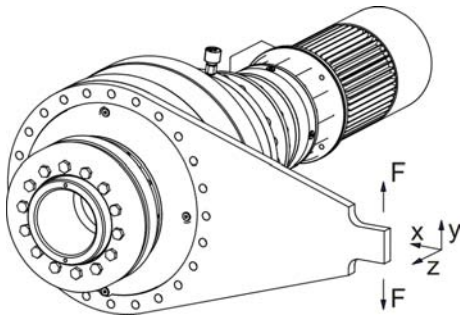

Fig. 37: Gearbox with torque arm
1. If a torque arm will be attached on the gearbox (Fig. 37) it must be freely movable in the direction of the x-axis and z-axis. In the direction of the y-axis movability of 0.5 - 1 mm must be maintained.